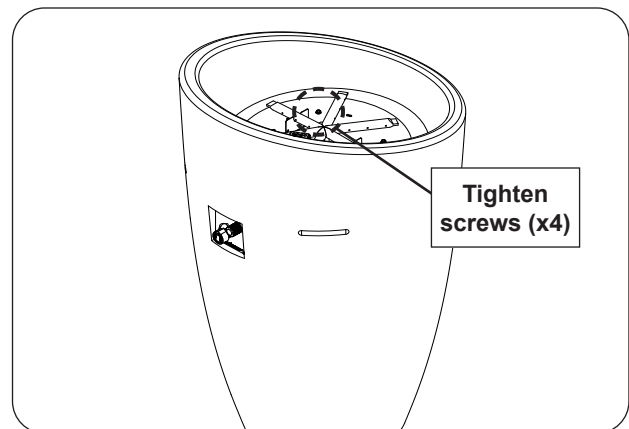

Fig. 22-2 Secure burner
2. Use a  $\frac{5}{16}$ " nut driver to fasten the burner to the base (see Fig. 22-2).